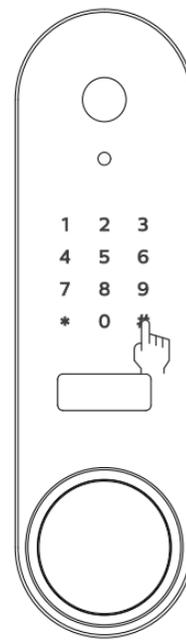

Figure 1
2. As shown in Figure 1, enter any fingerprint or simply touch the panel to wake up the keypad. Enter default PIN code '1234' and press '#' to confirm. After hearing a voice prompt 'Unlocking successful', open battery compartment inside the safe and insert in 4 AA batteries to complete the first use.